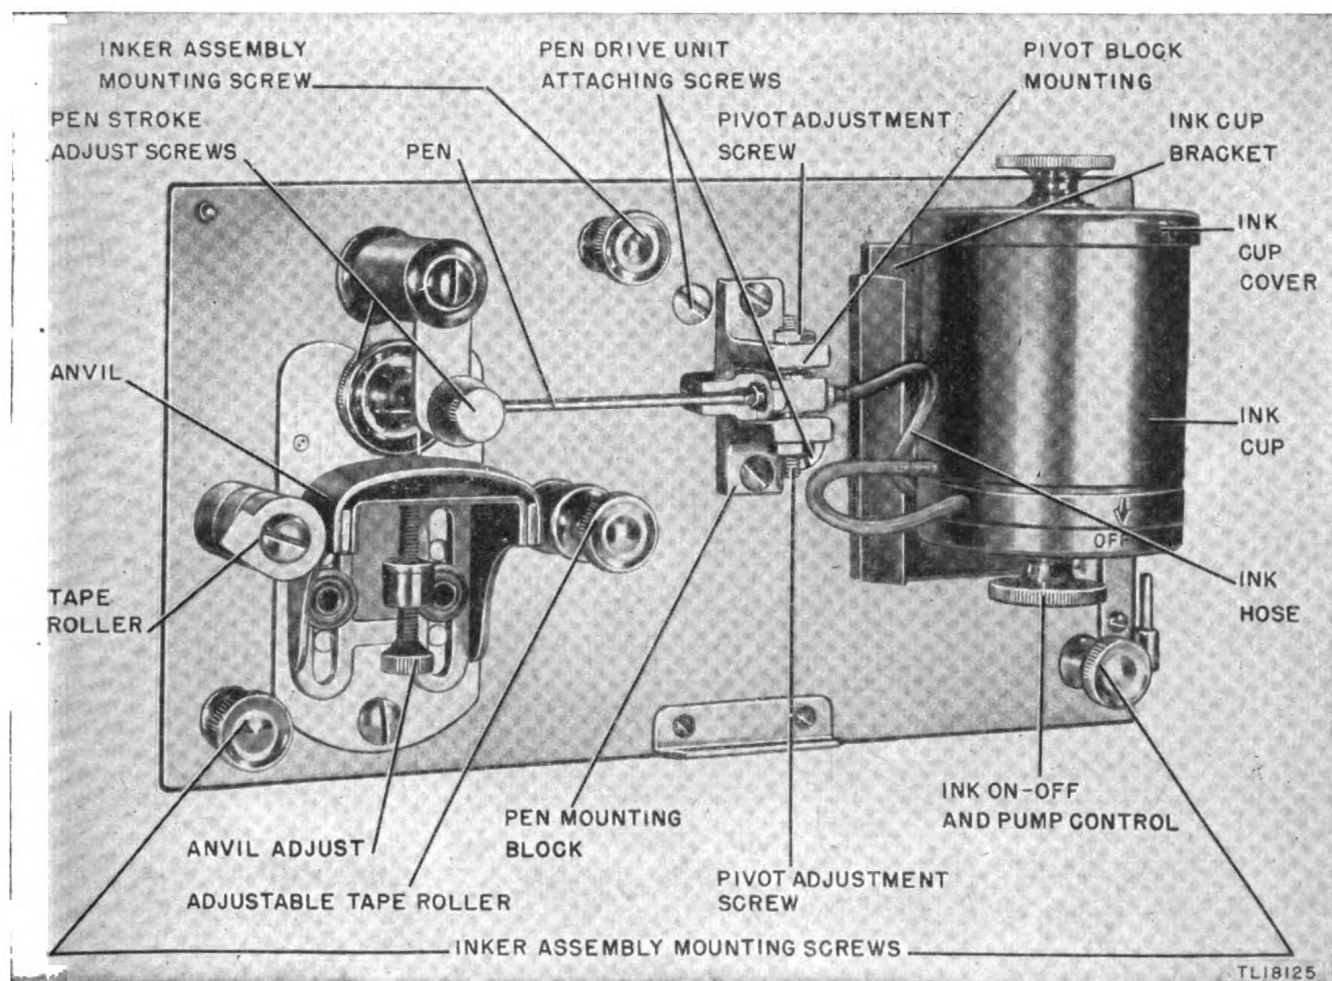

Figure 8. Inker assembly.
- a. Open inker assembly cover (52) and lift cover from panel.
- c. Loosen three knurled fastening screws of inker assembly (See fig 8.)
- d. Pull out separable attachment plug (189) and remove inker assembly from recorder panel.
The satisfactory operation of the recorder depends in great part on the proper functioning of the inker assembly. Improper adjustment, clogged ink channels, or defective parts in this unit will completely thwart the operation of the equipment although electrical components are in perfect working order. See figures 8 and 34 for location of parts.